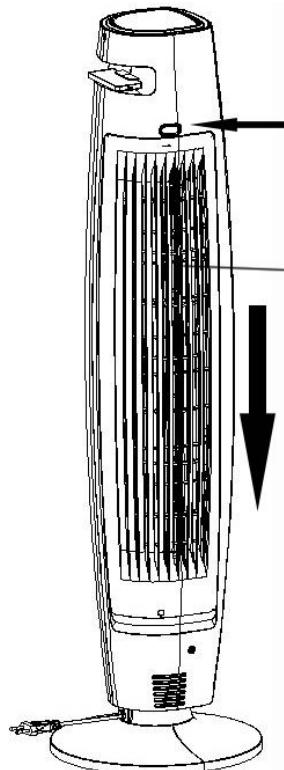

Fig. 1
- 1) Press the “PUSH” button to take out the air inlet grill (a) (fig. 1);